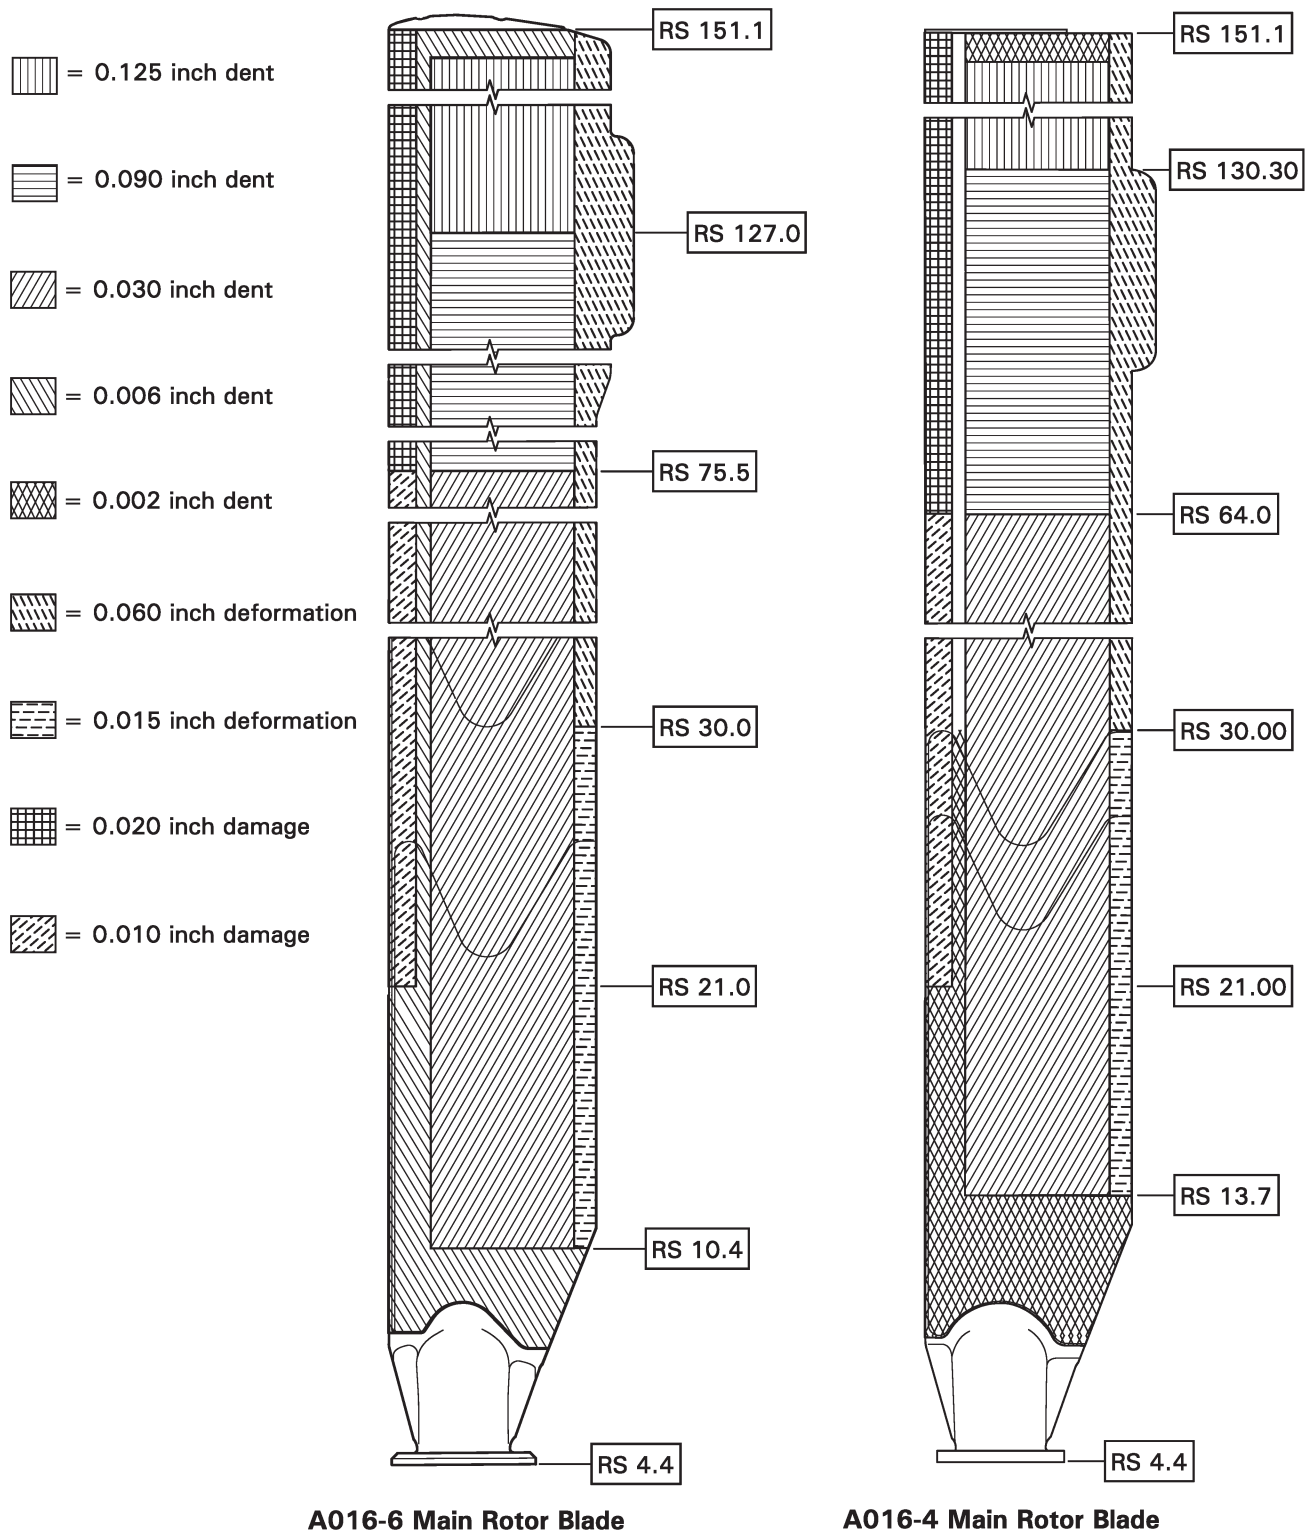

FIGURE 26-12 DENTS AND LOCAL DEFORMATIONS
1. Refer to Figure 26-12. Damage may not exceed the following limits: